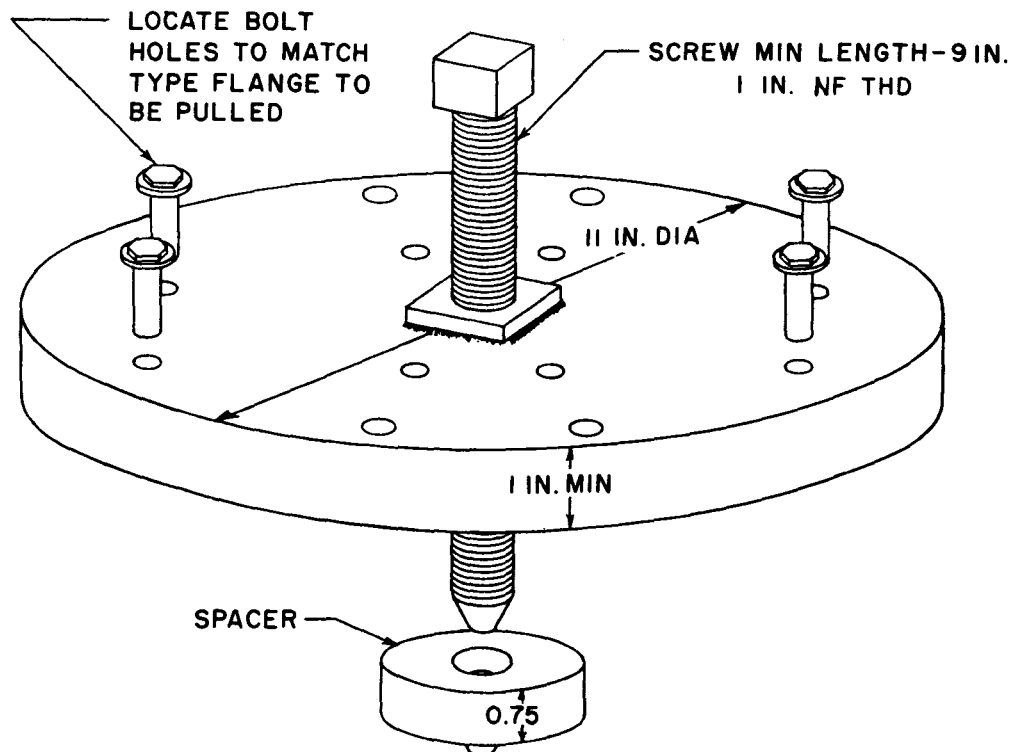

Fig. IV-2. Special tool for removing tight-fit flanges
(2) Input or output flange puller (fig. IV-2).
(1) Install a suitable heavy-duty puller to the face of the flange. A typical puller is illustrated in fig. IV-2.